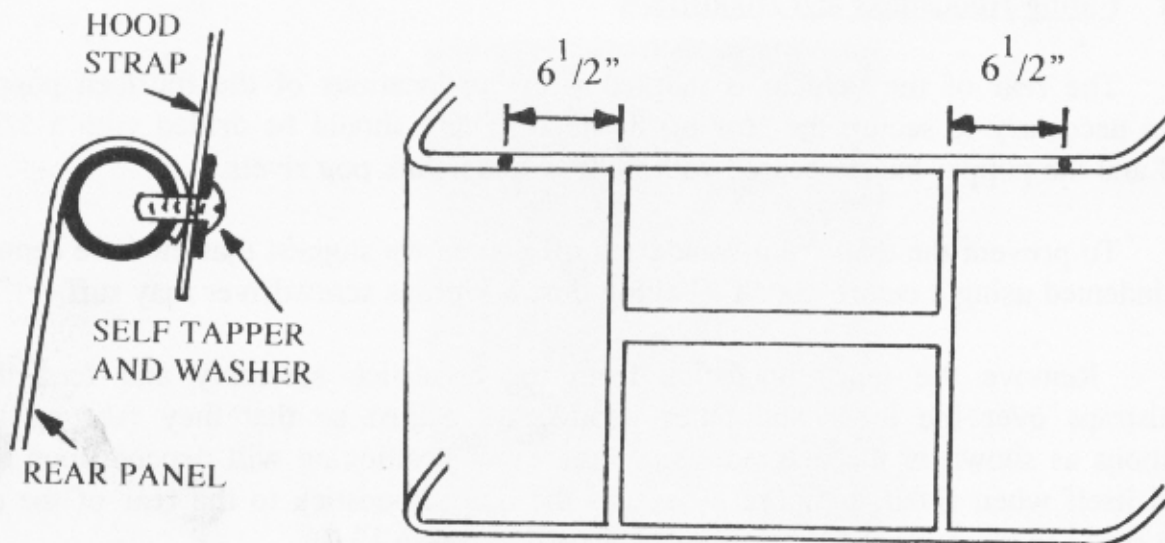

Figure 13.2 Hoodstrap Fixing
2.2 Noting the dimensions in 13.1.3 fix the hoodsticks into position. The hoodsticks should align with the 'darts' in the hood. Drill the inner edge of the top rear tube with two  $1/8$ " holes,  $6\frac{1}{2}$ " outboard of the vertical braces as shown in figure 13.2.